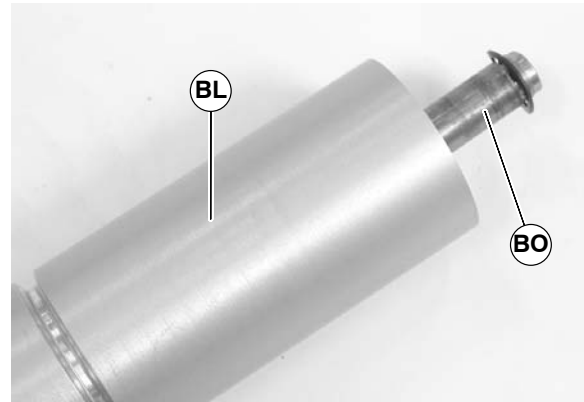

Figure 57
6. Slide the shaft assembly (BO of Figure 57) out of the pulley (BL).
6. Slide the shaft assembly (BO of Figure 57) out of the pulley (CK).